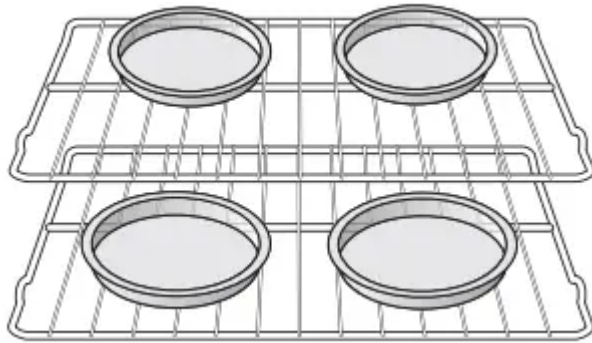
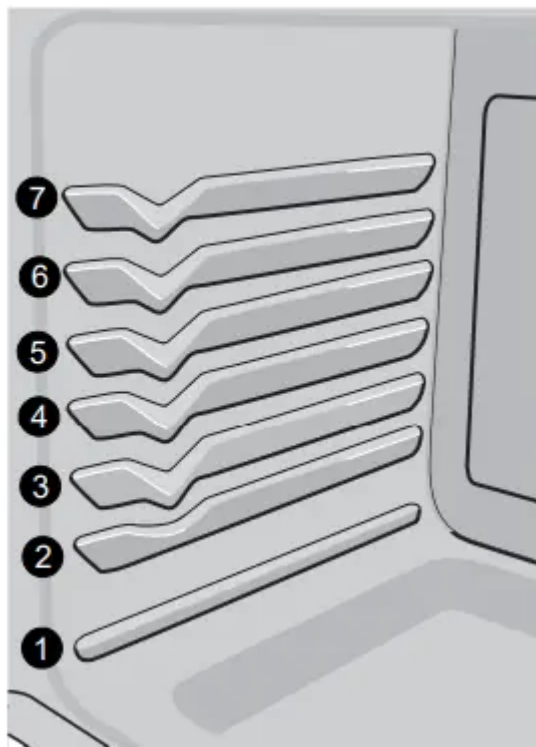

Figure 21: Baking on multiple levels
Figure 22: Oven rack positions
- When baking using two oven racks, position bakeware as shown in Figure 21. Allow at least 2 inches (5 cm) of space between bakeware for proper air circulation.
- For best results when baking cakes or cookies using two oven racks, place racks in positions 3 and 6 (See Figure 22) and place pans as shown in Figure 21.